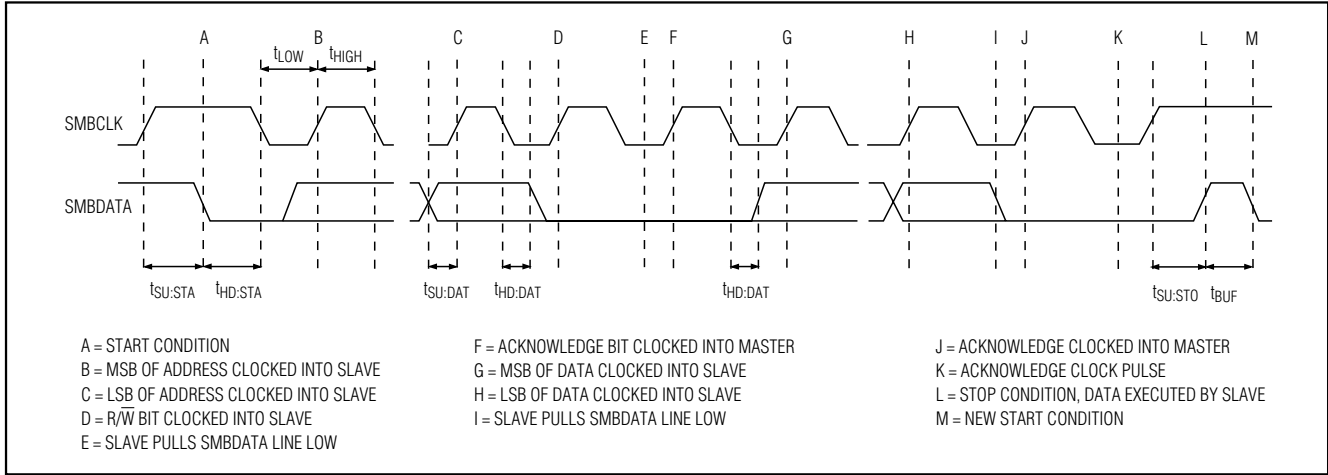

Figure 15. SMBus Write Timing
condition (P), which is low-to-high transition on CRF/SDA, while CTL/SCL is high. The bus is then free for another transmission. Figures 15 and 16 show the timing diagram for signals on the 2-wire interface. The address-byte, command-byte, and data-byte are transmitted between the START and STOP conditions. The CRF/SDA state is allowed to change only while CTL/SCL is low, except for the START and STOP conditions. Data is transmitted in 8-bit words and is sampled on the rising edge of CTL/SCL. Nine clock cycles are required to transfer each byte in or out of the MAX1996A since either the master or the slave acknowledges the receipt of the correct byte during the ninth clock. If the MAX1996A receives its correct slave address followed by $R/\bar{W} = 0$, it expects to receive 1 or 2 bytes of information (depending on the protocol). If the device detects a START or STOP condition prior to